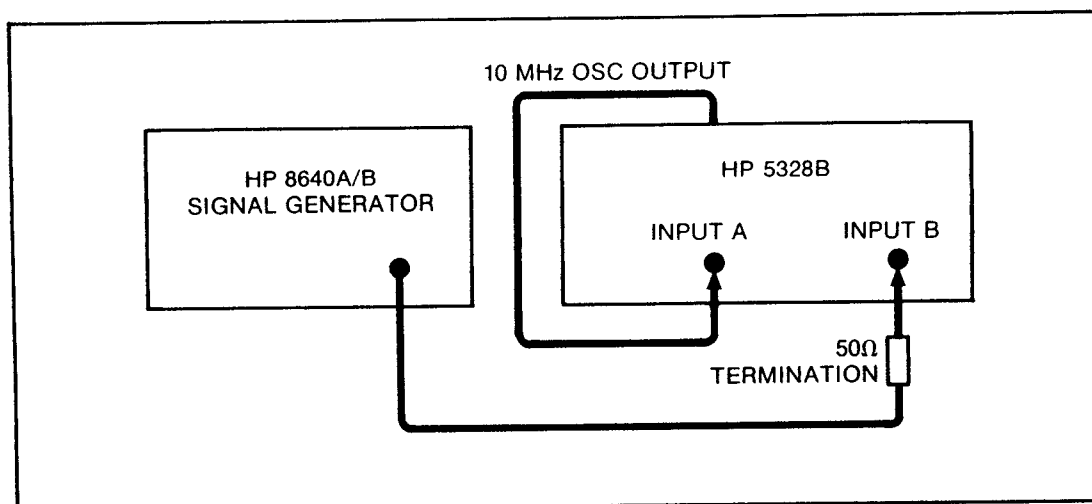

Figure 4-2. Channel "B" Test Setup
- a. Set up equipment for this test as shown in Figure 4-2.